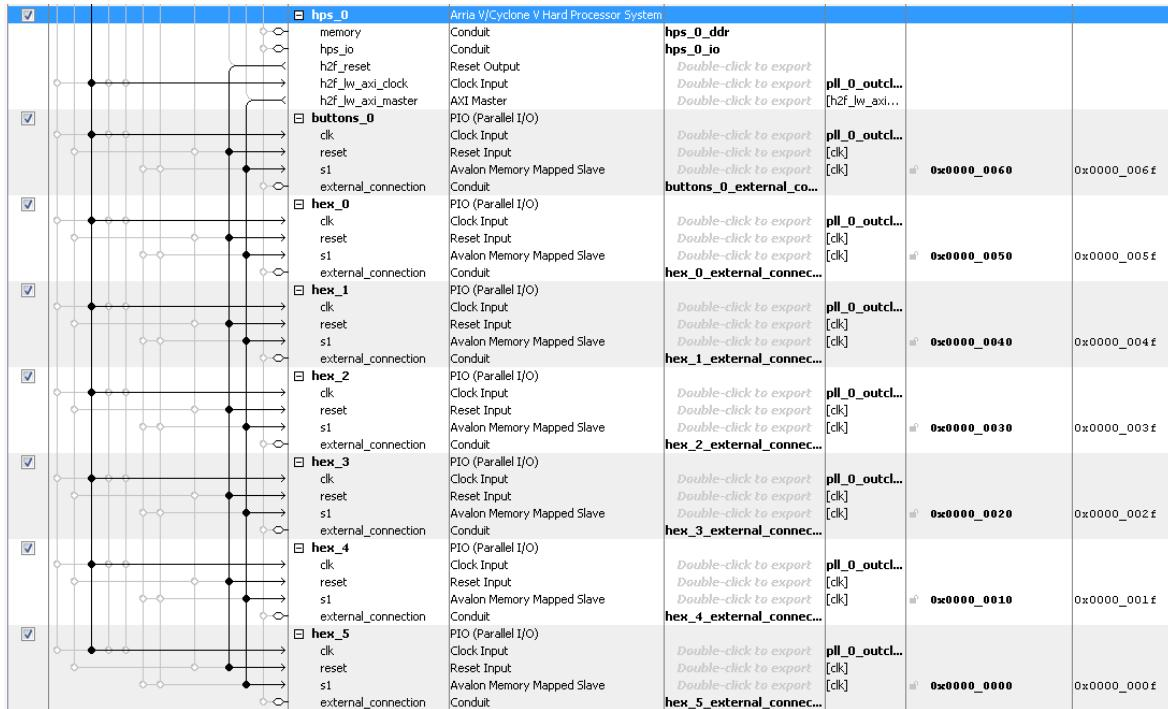

Figure 8-10. Adding Buttons and 7-segment Displays to the Lightweight HPS-to-FPGA Bridge
25. Connect the system as shown in Figure 8-10 below (we don’t show the full system to make figures hold on one page). Notice that we use “hps\_0.h2f\_reset” as the reset signal for the components